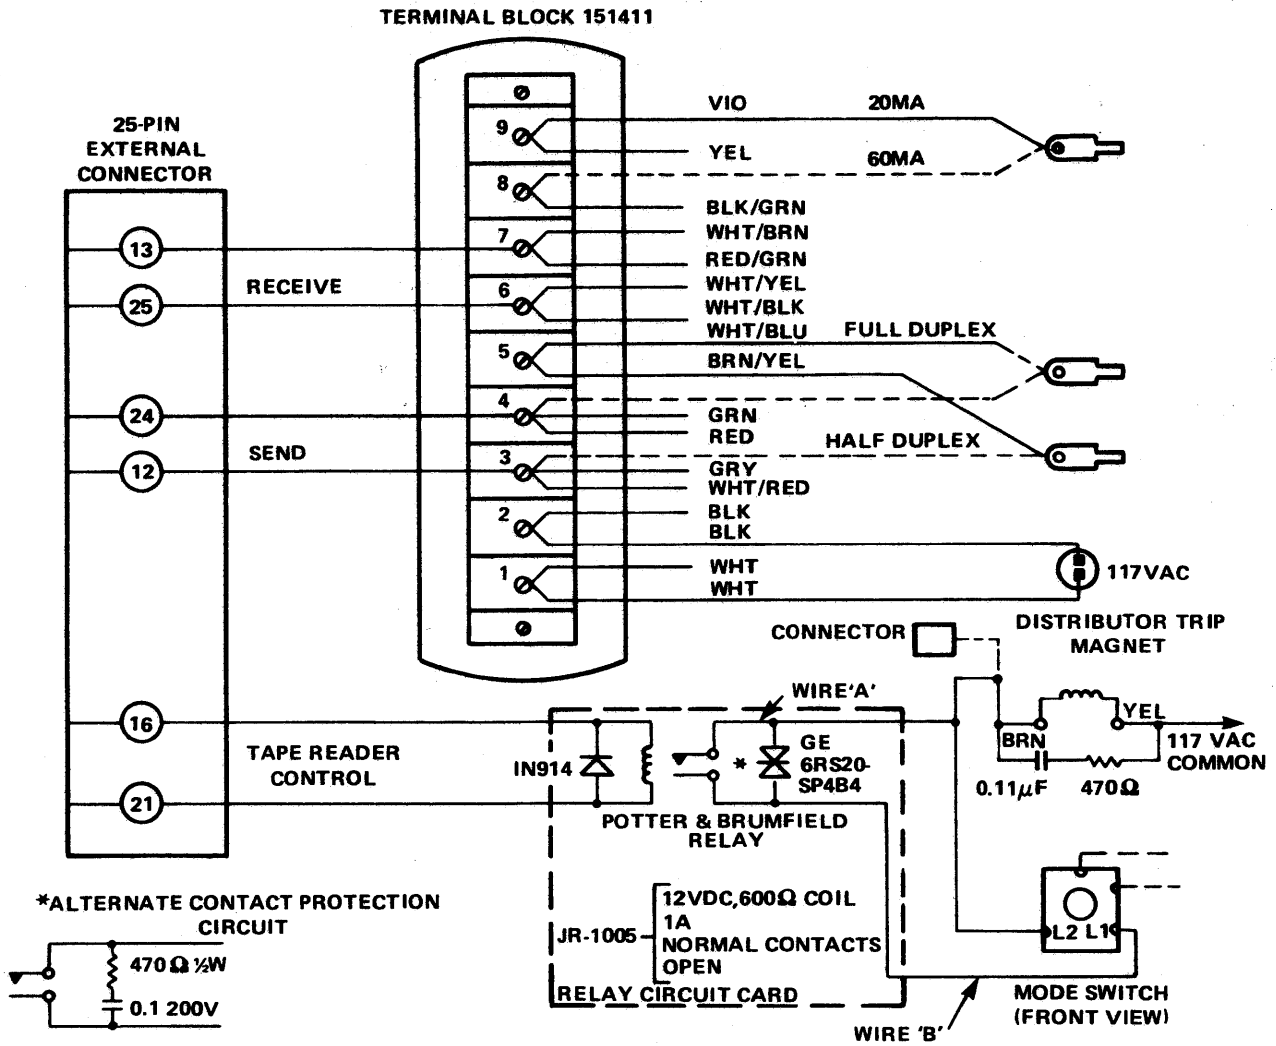
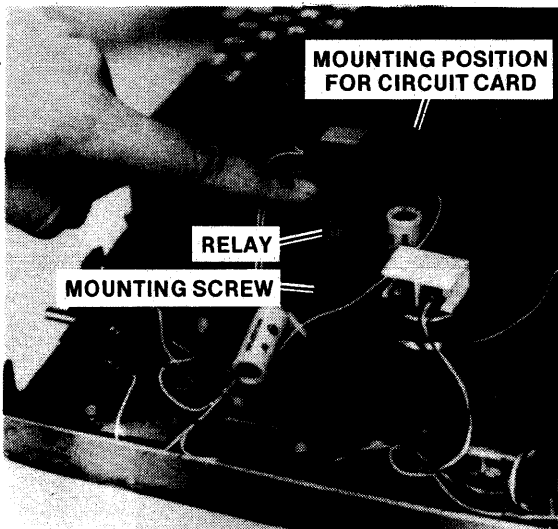
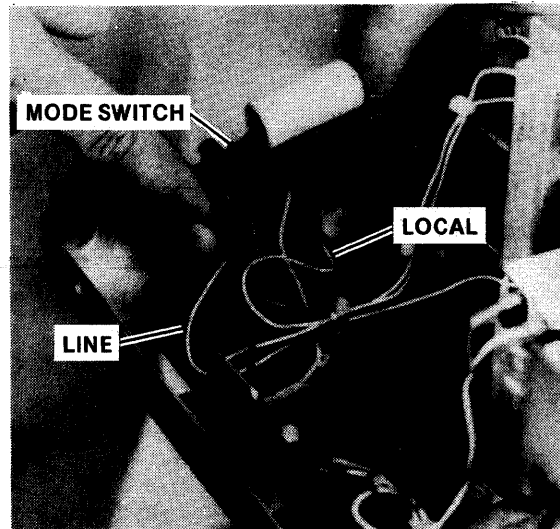

Figure C-4. Teletypewriter Modifications
Figure C-5. Relay Circuit
Figure C-6. Mode Switch
A circuit diagram of the relay circuit card is included in figure C-4; this diagram also includes the part numbers of the relay, diode, and thyrector. (Note that a 470-ohm resistor and a 0.1 $\mu$ F capacitor may be substituted for the thyrector.) After the relay circuit card has been assembled, mount it in position as shown in figure C-5. Secure the card to the base plate using two self-tapping screws. Connect the relay circuit to the distributor trip magnet and mode switch as follows:
1. Refer to figure C-4 and connect a wire (Wire A) from relay circuit card to terminal L2 on mode switch (see figure C-6).
3. Refer to figure C-4 and connect a wire (Wire B) from relay circuit board to terminal L1 on mode switch.
Connect a two-wire receive loop, a two-wire send loop, and a two-wire tape reader control loop to the external device as shown in figure C-4. The external connector pin numbers shown in figure C-4 are for serial channel 1 on the Intellec Series III system.